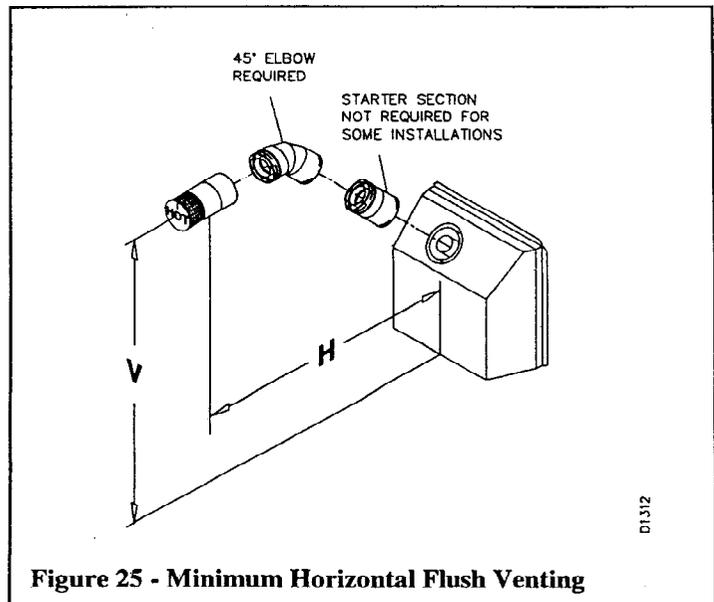

Figure 25 - Minimum Horizontal Flush Venting
Your DESA direct-vent fireplace has been tested for a maximum of 11" straight horizontal extension using one 45° elbow at the vent collar, (see figure 25 on page 10). Walls up to 11" thickness can be accommodated when using a round slip-fit termination. Any horizontal application longer than 24" must provide a minimum of one (1) foot of vertical rise for every three (3) feet of horizontal run. Depending on the number of elbows used, the maximum amount of horizontal run is 20' with 7' of vertical rise (see Installation for Horizontal Termination, page 8). The maximum straight vertical rise is 30' (see Installation for Vertical Termination, page 12).
Figures 25 through 28 show different configurations for venting with horizontal termination. Each figure includes a chart with vertical minimum/maximum and horizontal maximum dimensions, which must be met. All connections must be sealed with high temperature silicone sealant as specified in the second warning statement on page 7. All horizontal terminations require 1/4" rise per 12" of horizontal run. Therefore, you must add 1/4" of vertical height (V) in the following tables for each foot of horizontal run (H).